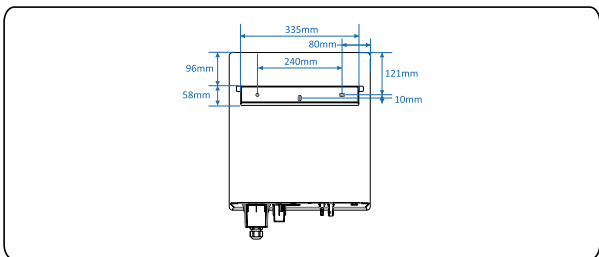

Figure 4.10 Determine the positions for drilling holes (unit: mm)
Step 2 Determine the positions for drilling holes (as shown in **Figure 4.10**) using the rear panel.